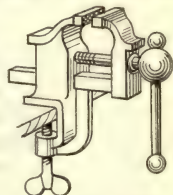

FIG. 39. — Machinist's vise.
8. The pitch of the screw of a bench vise (Fig. 39) is 0.2 inches and the handle of the screw is 7 inches long. What force could be exerted by the jaws of the vise if a force of 25 pounds were applied at the end of the handle?